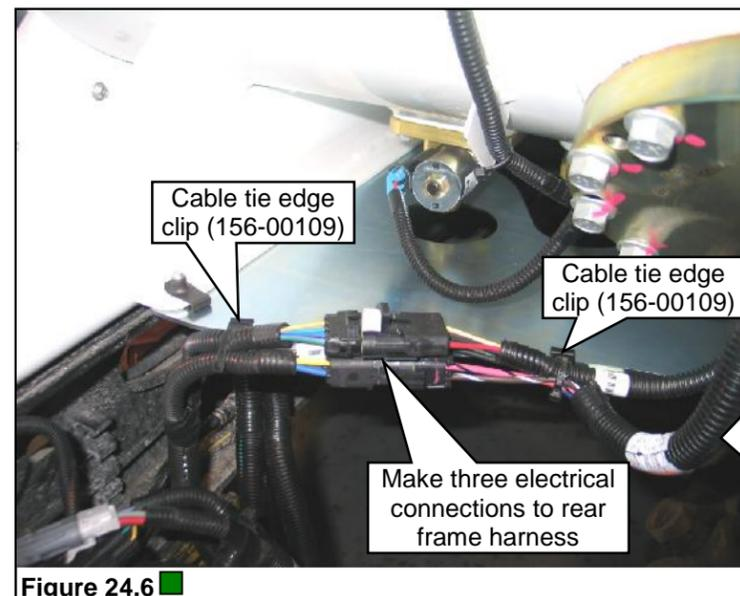

Figure 24.6 ■
15. The two fuel pump connectors and the 4-pin connector at the other end of the solenoid harness must be connected to the rear frame harness. Install two cable tie edge clamps to the heat shield to secure the harnesses. Make the electrical connections. **Figure 24.6.**